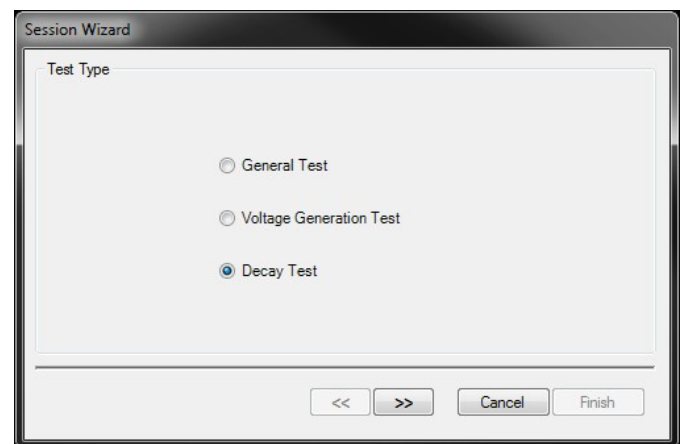

Figure 5: Use the first Session Wizard Window to Designate the Type Test
4. Select **Start a New Session Wizard** and click **OK**. This will open the **Test Type** screen (Figure 5). Select a Test Type and provide the requested information to be included in test reports. See the Session Wizard section below for further details.
The Opening Screen (**Figure 5**) is used to designate the type of test to be conducted. In the illustration, decay testing is the intent of the test.